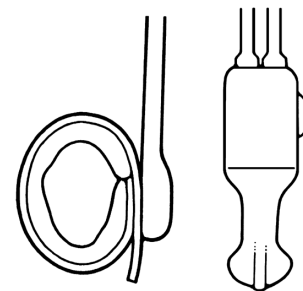

Figure 4-38. Squeeze and Release Pump Bulb
1. Squeeze and release the pump bulb several times to remove all fluid from cuff. (**Figure 4-38**)